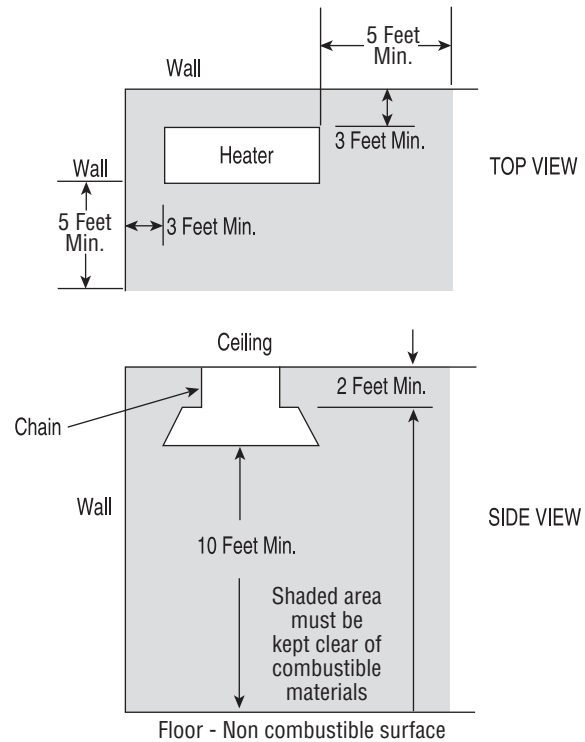

Figure 4
3. Do not stack or store combustible materials in the radiation path under the heater or in the space a distance of 5 feet from any projected edge of the heater as shown in figure 4.
Hanger kits include 24 feet of chain and four S hooks to mount the unit in a fixed overhead position using the universal mounting brackets included on the heater. This kit allows installation distances from the ceiling of 2 feet to 6 feet. See installation diagram Fig. 4 on page 2.